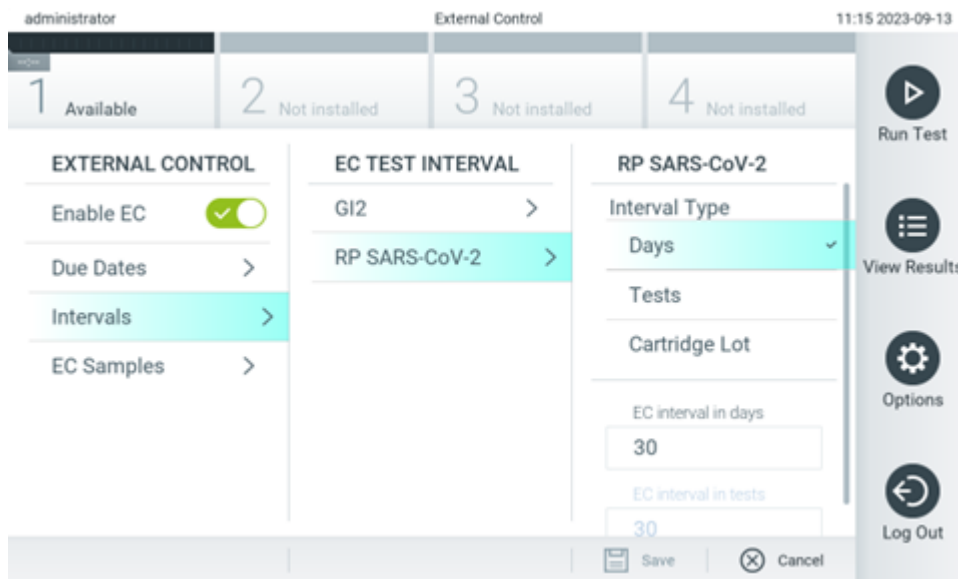

Figure 78. External Control Intervals screen.
- Select **Intervals** and then an assay from the list to configure the interval after. A reminder is shown to remind users that an External Control test needs to be performed for the selected assay if the interval has passed (Figure 78).